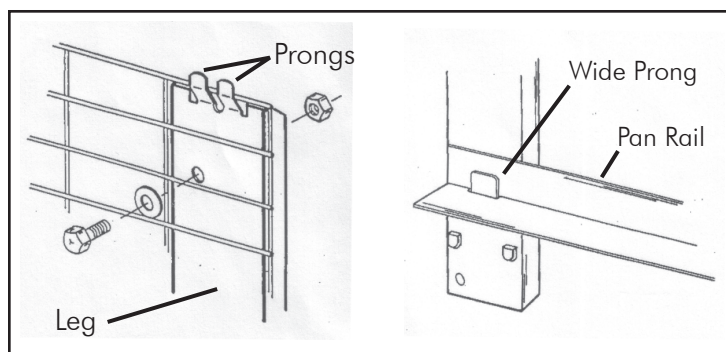

Figure 7
8. Install a frame leg at each ○ shown in Figure 7.
9. Ensure that the top wire of the side panel fits over the prongs on the legs as shown in Figure 7. If necessary, bend the prongs out slightly with a screwdriver. Install the bolts, washers, and nuts (finger tight only at this time).
10. Install the pan rails on the wide prongs as shown in Figure 7.
14. Install the pan rails on the wide prongs as shown in Figure 7.